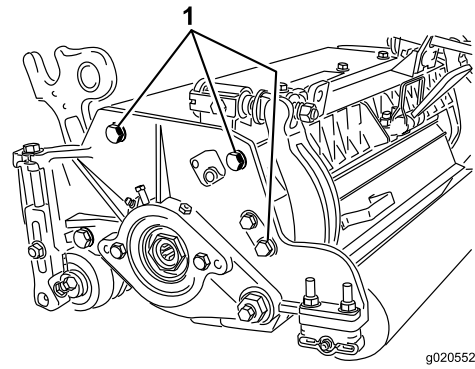

Figure 12
**Note:** The position of the rear roller to the reel is controlled by the machining tolerances of the assembled components, and so paralleling is not required. A limited amount of adjustment is possible by setting the cutting unit on a surface plate and loosening the side plate mounting cap screws (Figure 12). Adjust and tighten the cap screws. Torque the cap screws to 27 to 36 N·m (240 to 320 ft·lb).